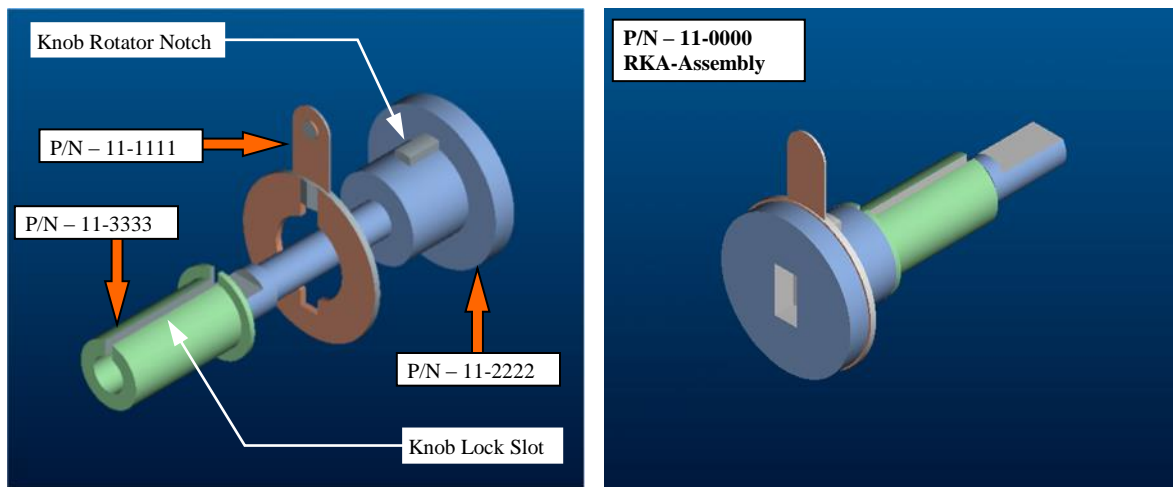

Figure 1: Rotating Knob Assembly
9.1 Rotating Knob Assembly (RKA, 11-0000) (Refer to Figure 1):